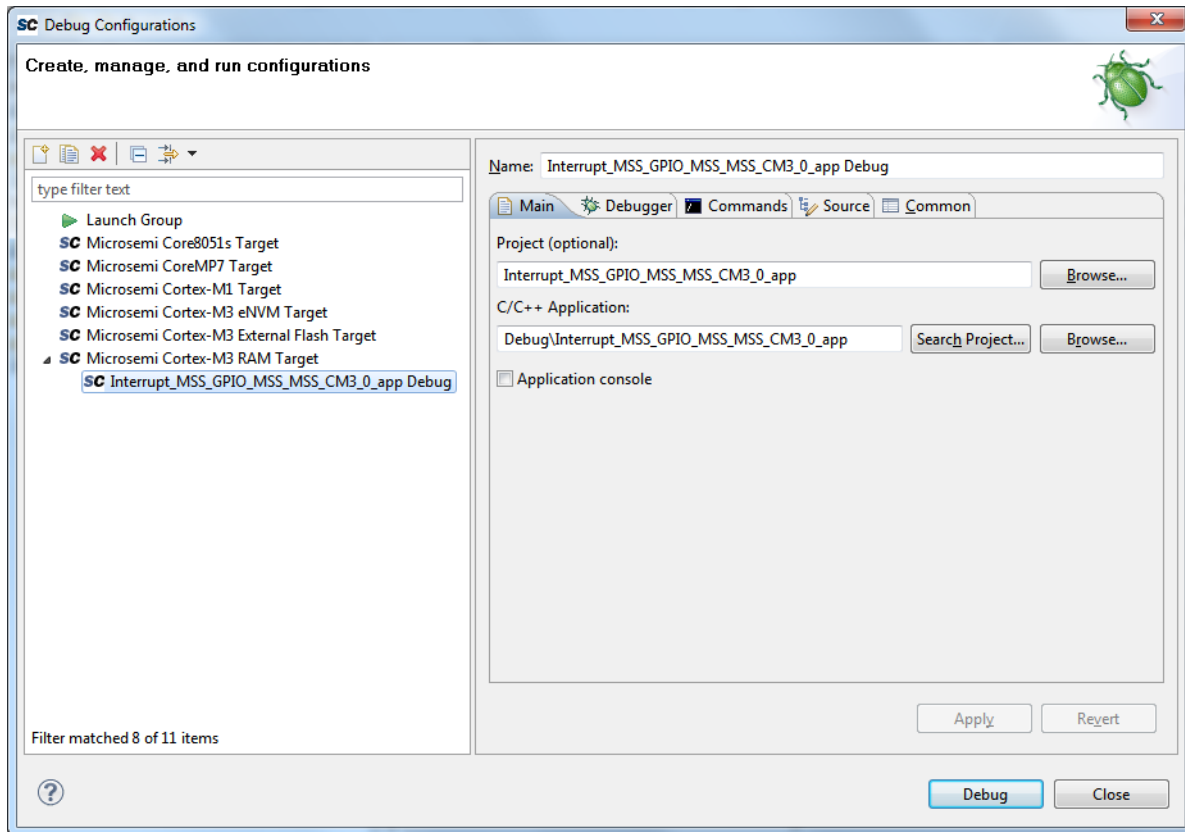

Figure 6-11 • Debug Configurations Dialog Box
2. Double-click **Microsemi Cortex-M3 RAM Target** to display the Options for the RAM target (Figure 6-11).